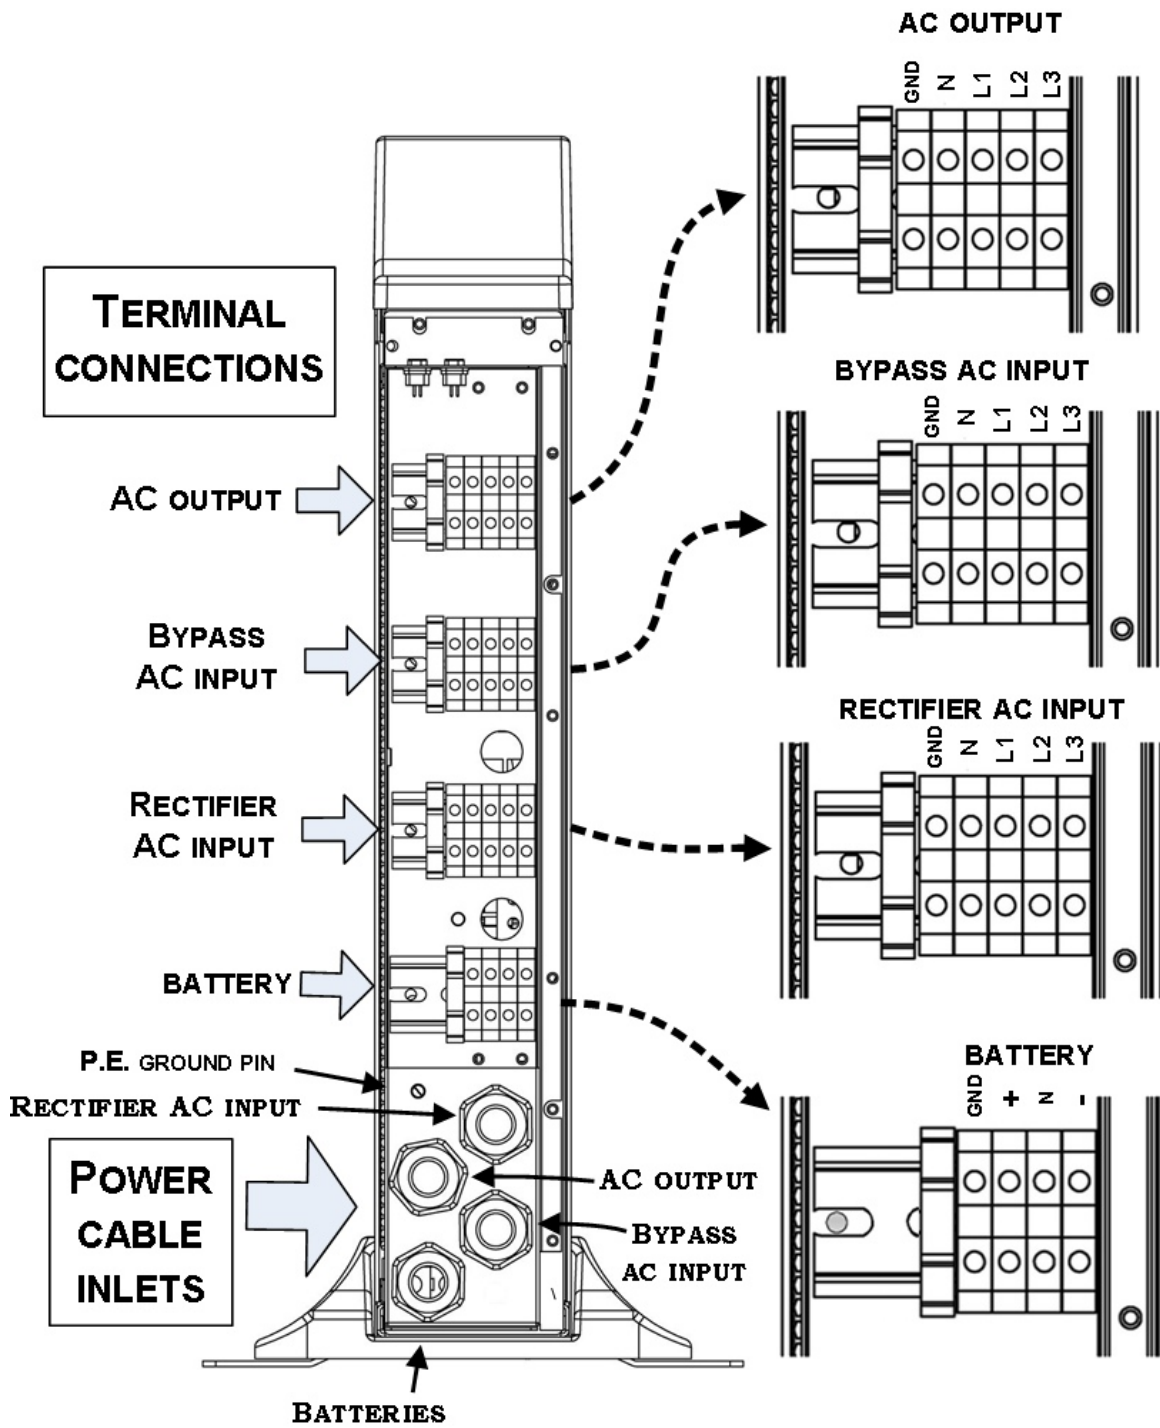

Figure 15-3: UPS rear panel view, with protective cover removed
4. Connect the UPS wiring according to the labeling on the unit, shown in Figure 15-3 on page 69.
5. Run the **AC output cable** through the cable holder labeled “AC output” in Figure 15-3 on page 69. Connect the cable to the AC output terminals, also detailed in Figure 15-3. Use the appropriate grade of wire as specified in Table 15-1 on page 66, or according to local electrical codes.
6. Run the two **AC input cables** through the cable holders labeled “AC input” and “Bypass AC input” in Figure 15-3 on page 69. Connect the cables to their respective input terminals (“Rectifier AC input” and “Bypass AC input”), also shown in Figure 15-3. Use the appropriate grade of wire as specified in Table 15-1 on page 66, or according to local electrical codes.
7. Run the **batteries cable** through the cable holder labeled “Batteries” in Figure 15-3. Use the appropriate grade of wire as specified in Table 15-1 on page 66, or according to local electrical codes.
4. On the **POWER+ SA**, run the battery cable through the cable holder labeled “Batteries”, shown in *Figure 15-3* on page 69. Attach the cable to the UPS’s “Battery” terminals as labeled in *Figure 15-8* above. The other end of the battery cable must be attached to the battery box terminals as labeled in *Figure 15-7* above.